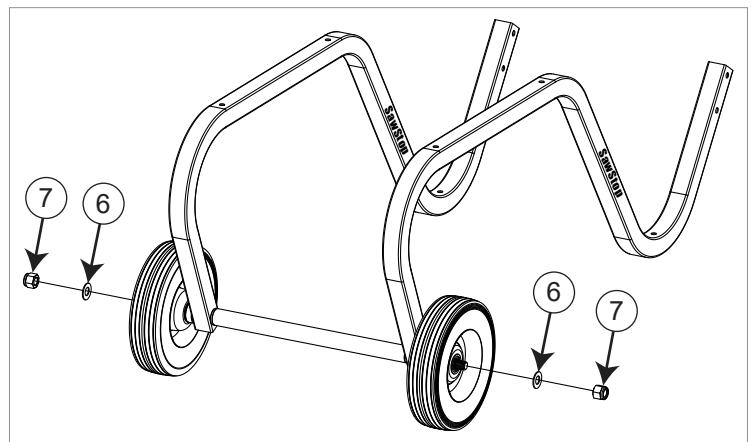

Fig. 6
6. Secure each wheel to the wheel axle with one M16 x 31 washer and one $\frac{5}{8}$ inch lock nut (see Fig. 6). Fully tighten the lock nuts with a 1 inch wrench or an adjustable wrench.